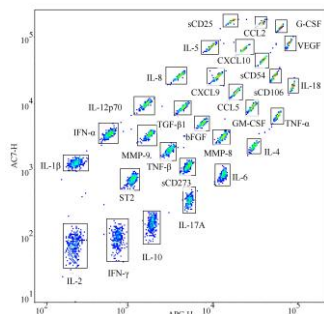

Figure 2
- 3) Create an APC-H/APC-Cy7-H scatter plot. From the P1-gated bead population, identify individual bead populations according to the relative positions of each encoded bead population specified in the product's Certificate of Analysis (COA) and gate each cytokine-specific bead population using rectangular gates (Figure 2).